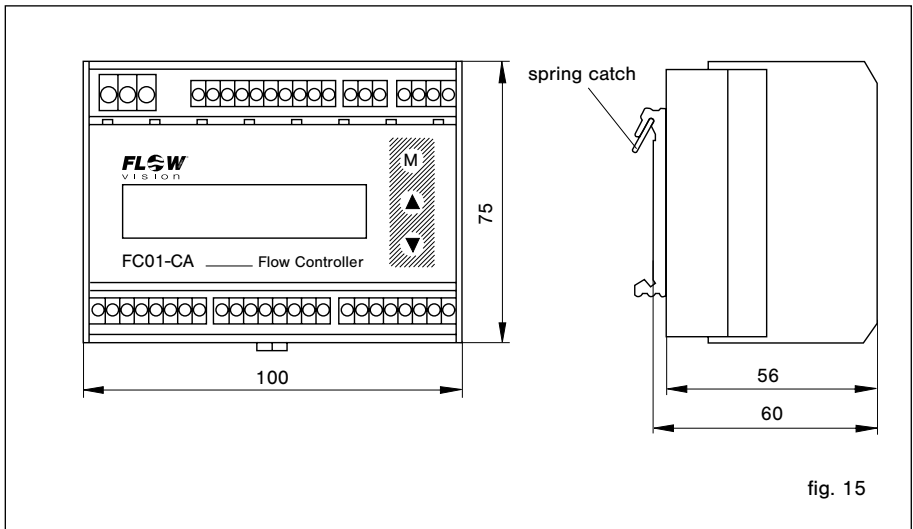

fig. 15
2.2.1.1 Rail-mounted version FC01-CA-U1... (fig. 15)